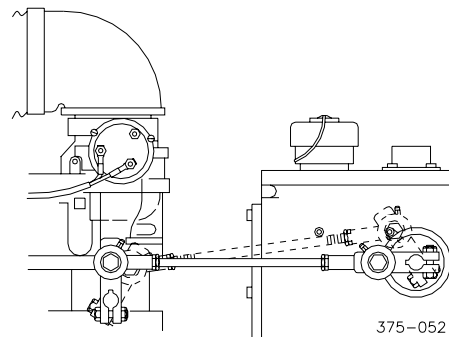

Figure 2. Carburetor Compensating Linkage (minimum fuel shown with solid lines; maximum fuel shown with dashed lines)
4. Carbureted engines should have a carburetor compensating linkage (see Figure 2).